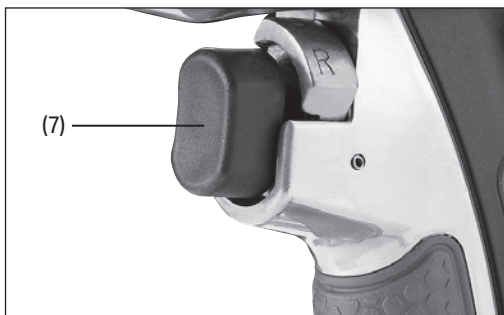
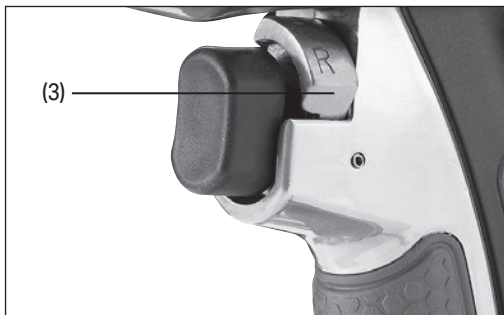

Fig. 4
Fig. 5
7.2 Trigger Switch (Fig.4)
- Press the trigger switch (7) to operate the drill.
7.3 Directional control Switch (Fig.5)
- Slide the switch (3) to change the direction for either (F) forward or (R) for reverse.